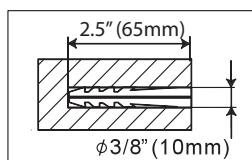
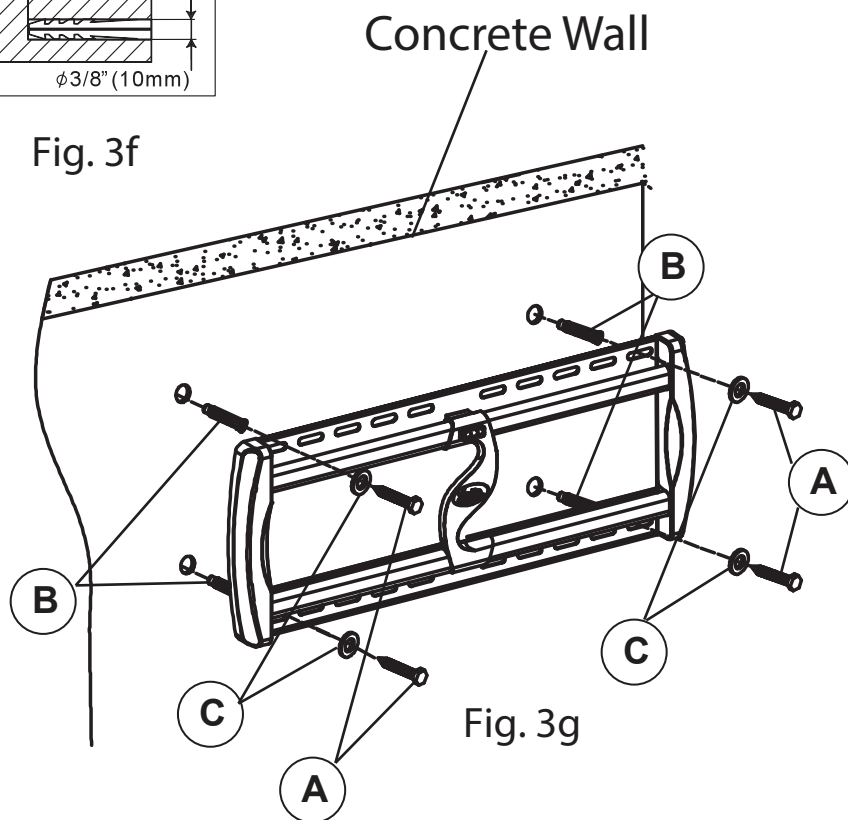

Fig. 3f
Fig. 3g
2. Use 3/8" (10mm) drill bit to pre-drill four holes at least 2.5" (65mm) deep (Fig. 3f) at the marked locations.
3. Insert a **Wall Anchor (B)** into each pre-drilled hole and lightly tap it with a hammer until the wall anchor is flush with the wall.
4. Use a wrench, the four **Long Bolts (A)**, and **Washers (C)** to attach the wall mount to the wall with the **Wall Anchors (B)** (Fig. 3g).